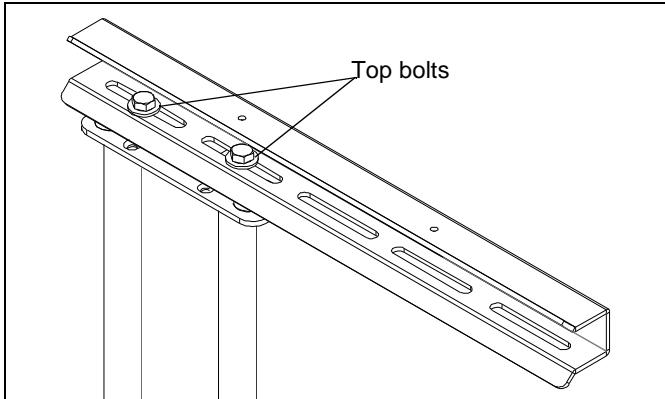

Figure 13
2. Remove four bolts (two on the top and two on the bottom) securing the swing arm assembly to the top and bottom mounting brackets. (See Figure 13)
- Left of Center (See Figure 13).